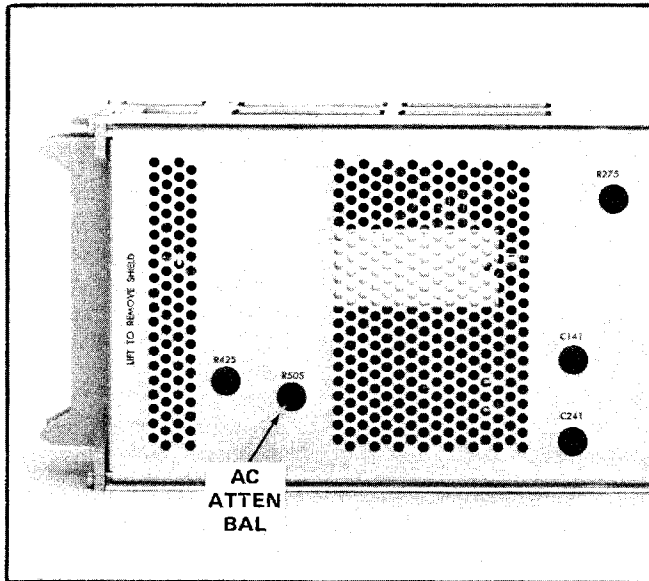

Fig. 2-2. Location of AC ATTEN BAL control.
**1. AC ATTEN BAL (internal adjustment).** When the LOW FREQ —3 dB POINT switch is used to limit the low frequency response of the Type 7A22, the unit employs AC stabilization. This means that when the switch is set to any position except DC or DC OFFSET, the STEP ATTEN DC BAL and DC OFFSET controls become inoperative. VOLTS/DIV balance is then controlled with the AC ATTEN BAL, an internal adjustment (see Fig. 2-2).
d. Adjust R425 for no movement of trace as the VARIABLE control is rotated from stop to stop. (See Fig. 2-2 for location of adjustment.)